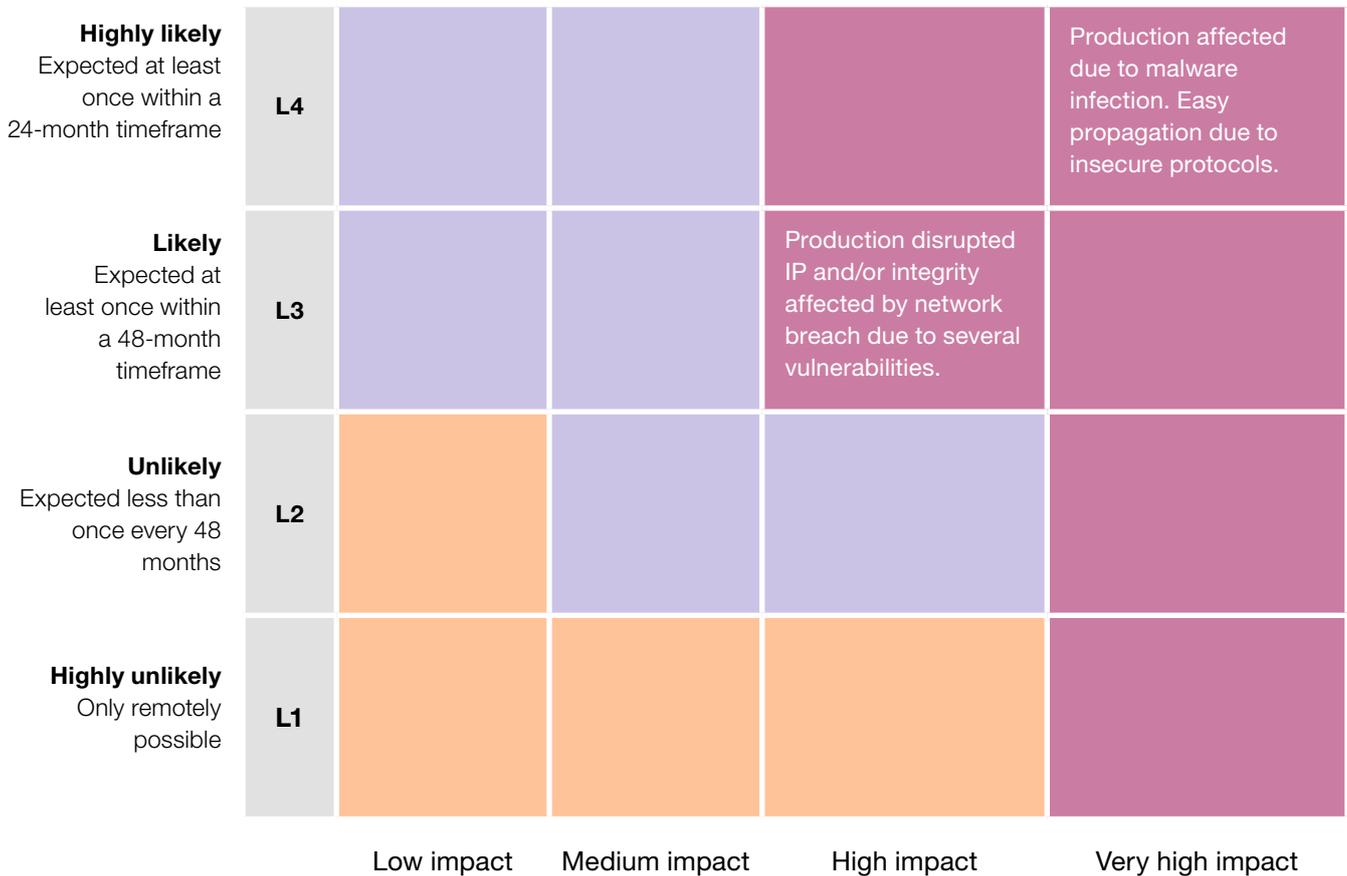

Figure 5: Example of a risk heat map
**Risk evaluation and mitigation:** Findings from the previous assessments are translated into a risk heat map (Figure 5) that provides a concise, visual representation of potential security risks to the organization’s industrial environment. This enables visualization and mapping of identified risks within a risk matrix based on potential impact and probability. At this stage, mitigation measures to reduce the risks to acceptable levels, including prioritization and budgetary indications can be identified.